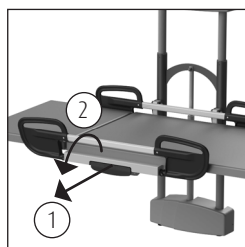
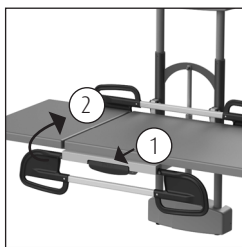
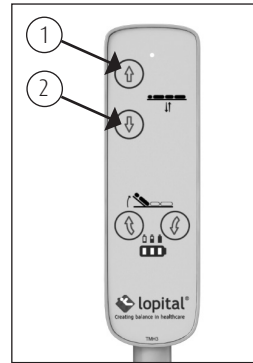

Figure 1 Side rail.
Figure 2 Side rail down.
Figure 3 Hand control.
- The side rail is equipped with safeguards so that the client cannot raise the side rails themselves (See figure 1).
- Unlock the safeguard by using one hand to pull the protruding handle (1) and rotating the side rail with your other hand (2).
- Turn the side rail upwards again to close the side rail. The side rail locks automatically (See figure 2).
- The side rail can be placed in 2 positions, wide and narrow. When you fold the side rail upwards, the side rail is first locked in the wide position (See figure 3). By pulling the handle of the lock (See figure 2) you can move the side rail further back to its narrow position.
- Move the Vienna deluxe upwards by pressing the button that shows an 'up' arrow. The Vienna deluxe will then immediately move upwards (1) (See figure 3).
- Move the Vienna deluxe downwards by pressing the button that shows a 'down' arrow the dressing table will immediately move downwards (2) (See figure 3).